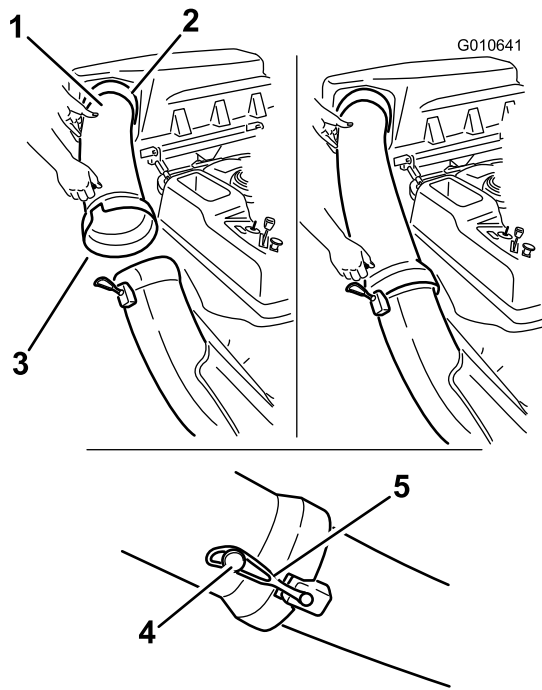

Figure 21
1. Slide the curved end of the discharge tube into the opening in the bagger top (Figure 21).
2. Slide the flared end of the discharge tube over the end of the chute. Move the rubber retaining strap on the chute snaps over the peg on the discharge tube to secure it (Figure 21).